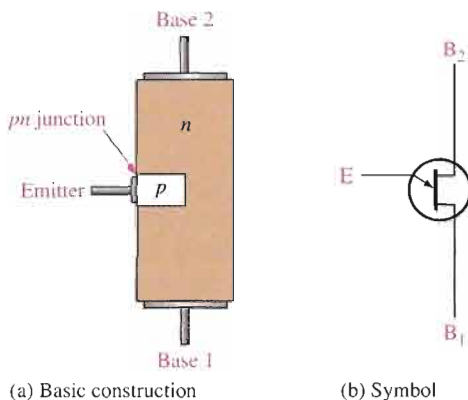

FIGURE 11-33 The unijunction transistor (UJT).
The **UJT** (unijunction transistor) is a three-terminal device whose basic construction is shown in Figure 11-33(a); the schematic symbol appears in Figure 11-33(b). Notice the terminals are labelled Emitter (E), Base 1 (B_1), and Base 2 (B_2). Do not confuse this symbol with that of a JFET; the difference is that the arrow is at an angle for the UJT. The UJT has only one *pn* junction, and therefore, the characteristics of this device are different from those of either the BJT or the FET, as you will see.